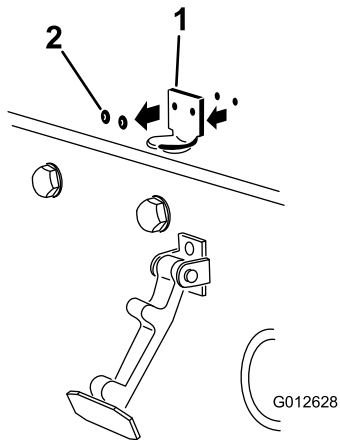

Figure 12
2. Remove the (2) rivets securing the hood latch bracket to the hood (Figure 12). Remove the hood latch bracket from the hood.